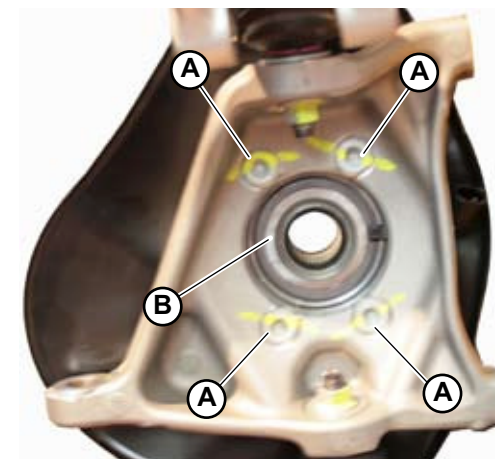

Fig.3
1. Loosen the 4 screws (A-Fig.3) securing the front bearing to the hub housing.
2. Knock gently from behind to extract the wheel hub together with the front wheel bearing (B-Fig.3).